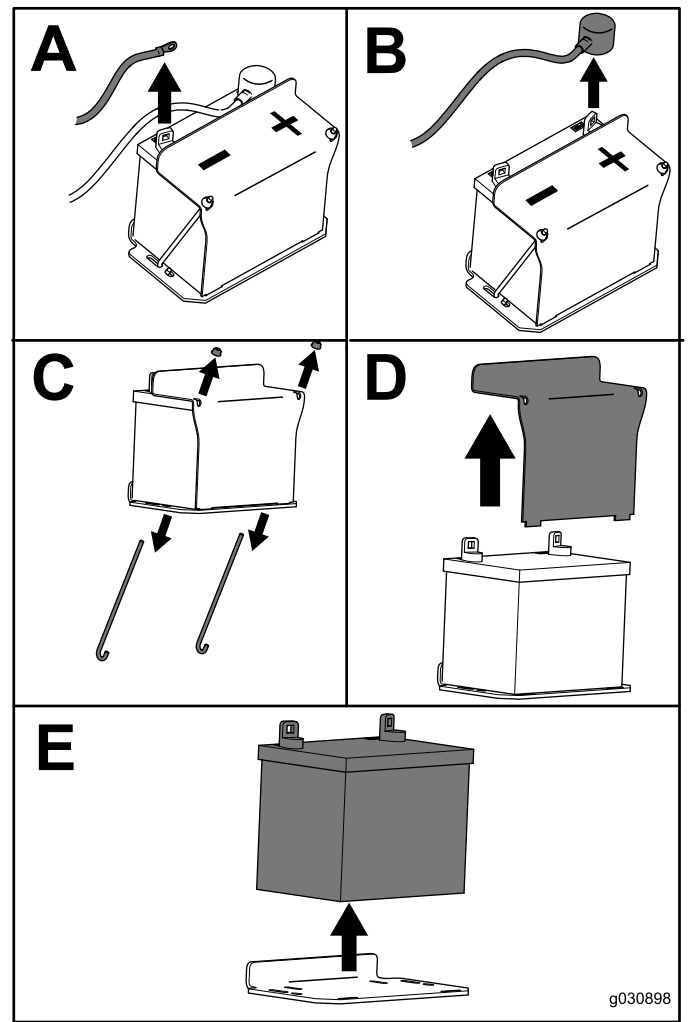

Figure 60
3. Remove the battery as shown in Figure 60.